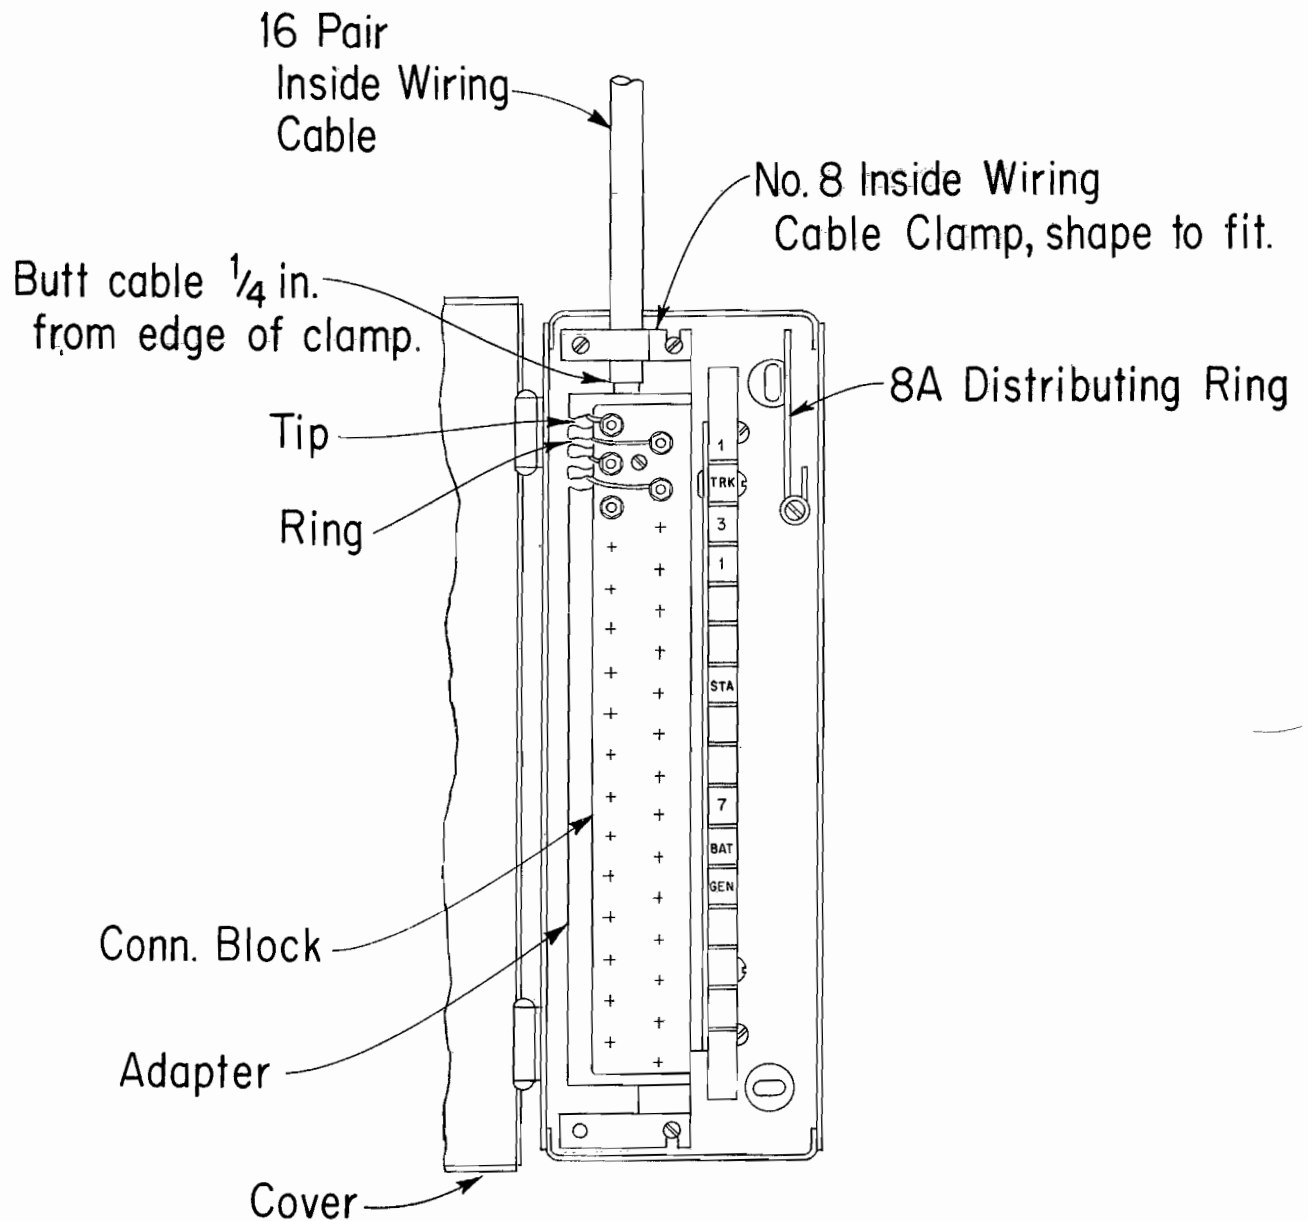

Fig. 1 — Typical Arrangement for 507A PBX with Prefabricated Sheet Metal or Die-Cast Aluminum Chassis
4.04 Install cross-connecting terminal box and place connecting block and adapter in terminal. See Figs. 1, 2, and 3 for typical arrangement.
4.06 Strip the end of the cable to be placed in the cross-connecting terminal and butt as shown in Figs. 1, 2, and 3.
4.08 Letter and number fanning strips, using 3/16-inch rubber stamps, as shown in Figs. 1, 2, and 3. When connecting blocks are used which have the ring terminal positioned above and to the right of the tip terminal, transpose the designations for single leads.